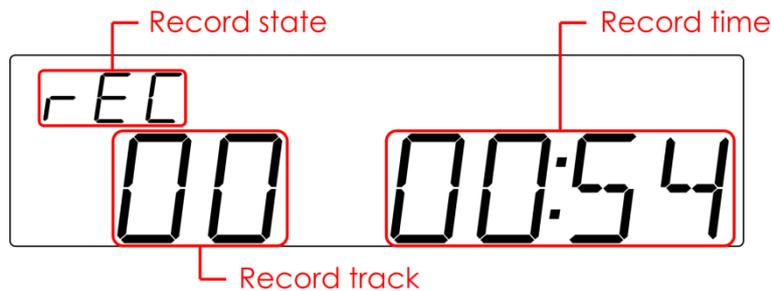

Fig. 08
- Press the **Rec button** (21, 33) again to start recording. While recording, the display looks as shown in figure 08.